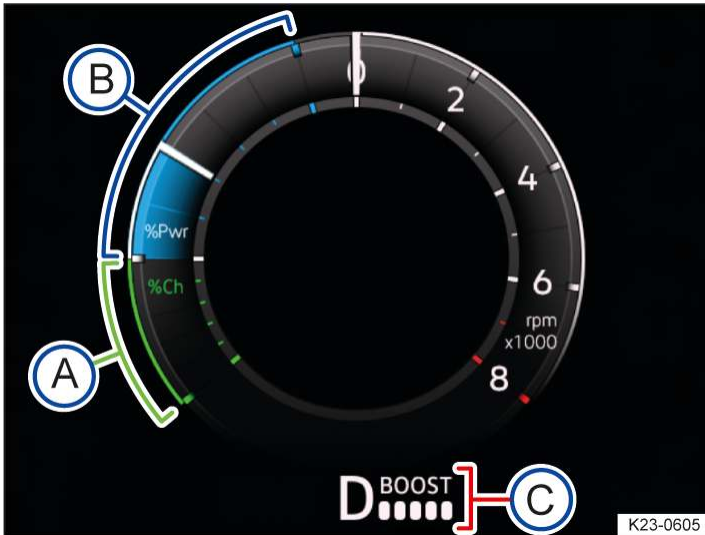

Fig. 1 In the digital instrument cluster: power display (illustration).
In the left area of the power display, the power display continuously shows the availability of brake energy recuperation → Fig. 1 (A) (green) downwards and traction → Fig. 1 (B) (blue) upwards.